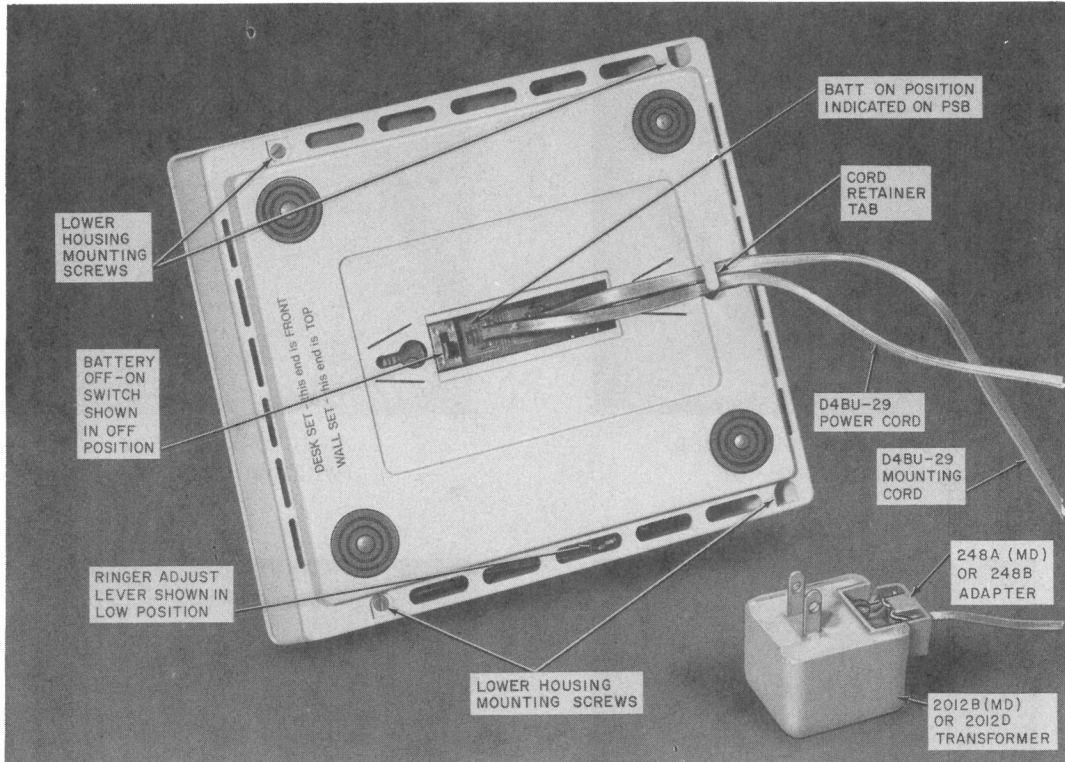

Fig. 2—2960A01M Telephone Set, Bottom View
- Battery OFF-ON switch (located on the bottom of the set, Fig. 2), should be in the OFF position when set is not in service.
- Adapter, 248A (MD) or 248B (to connect D4BU modular mounting cord to 2012B (MD) or 2012D transformer) Fig. 2.
- 3.04** Attach 248A or 248B adapter to 2012B or 2012D transformer (Fig. 2) and plug into 110-117 volt ac outlet not controlled by a switch (continuous ac power is required). Plug one end of the D4BU-29 power cord (maximum 14 feet) into the power jack on the bottom of the set (Fig. 15D) and the other end into the 248A or B adapter.
switch arm (now visible in the bottom view of the set, Fig. 2) to the ON position.
Note: The switch ON position is indicated on the bottom of the printed wiring board, (Fig. 2) and if switch is not placed in ON position the set will not record or automatically dial.
Note: Dress all cords under retainer tab at bottom rear of housing, Fig. 2.